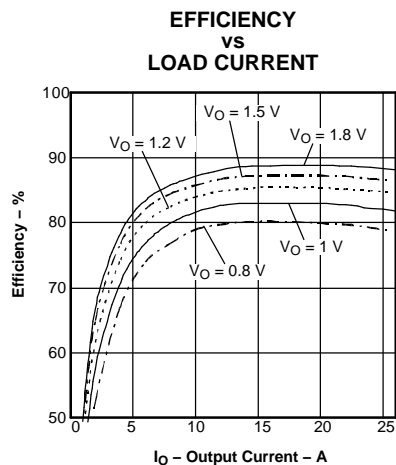
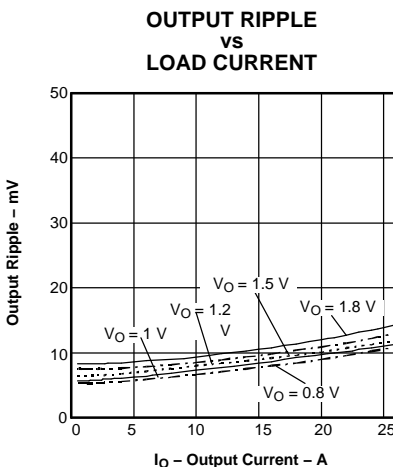
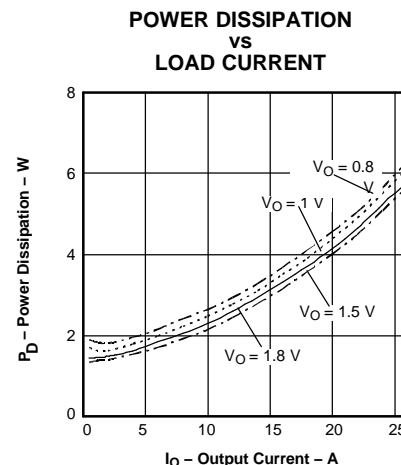

Figure 5.
Figure 6.
Figure 7.
- (1) Characteristic data has been developed from actual products tested at 25°C. This data is considered typical data for the converter. Applies to Figure 5, Figure 6, and Figure 7.